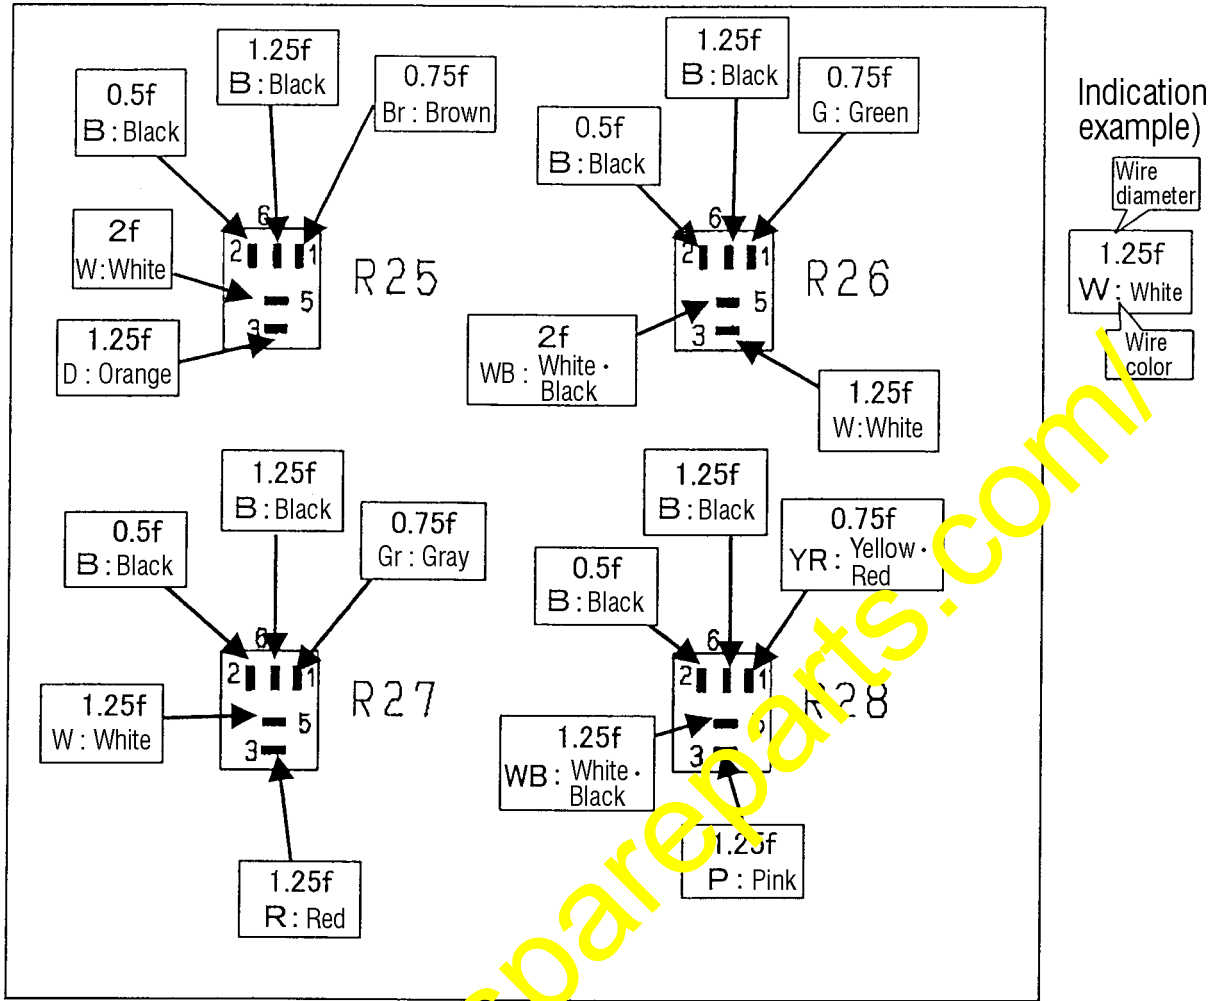
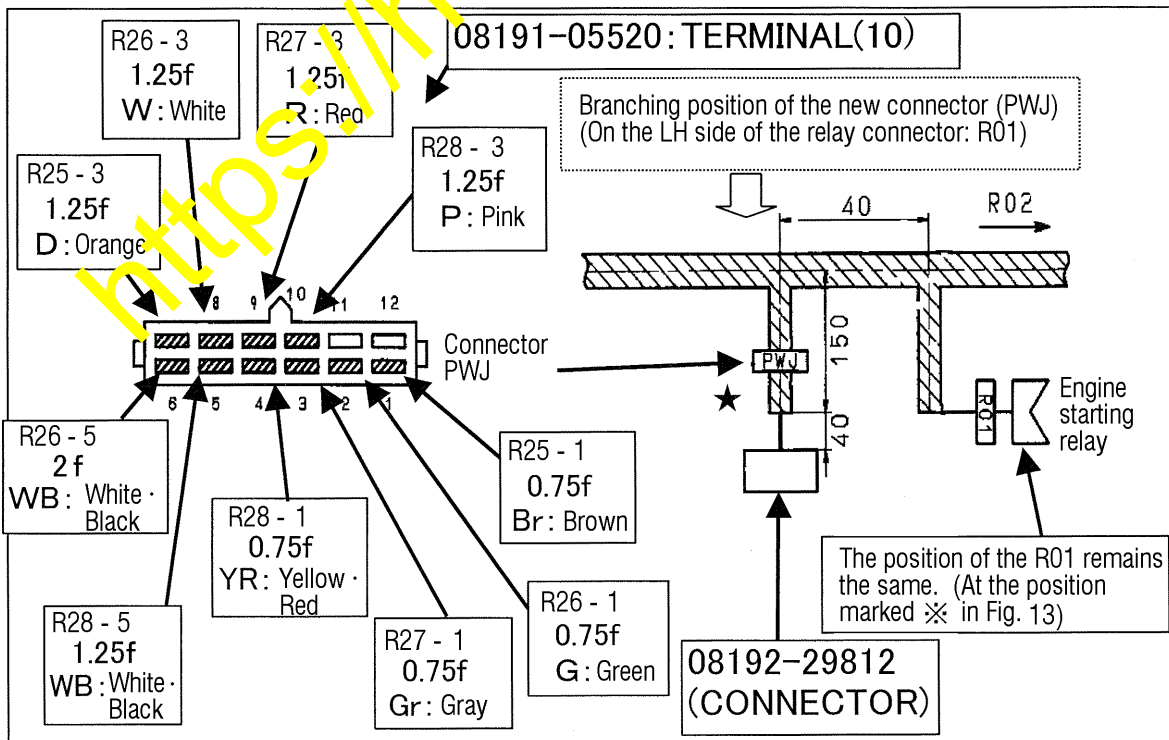

Fig. 15
Fig. 16
(The section marked ★ in Fig. 16).
- (i) Connect the leads of the relay connectors (R25 through R28) (Refer to Fig. 15) to the centralized connector (PWJ). (Refer to Fig. 16.)
(Refer to Fig. 16.)